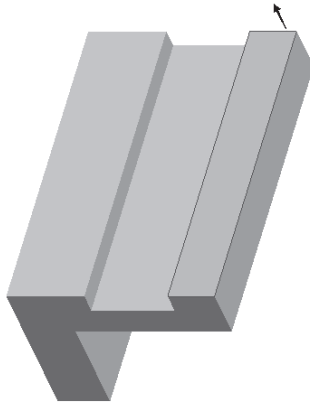

Figure 5-93 Arrow pointing from the sketching plane in the direction of feature creation
- c. Create the second feature, refer to Figures 5-93 through 5-96.
3. Select the top face of the base feature shown in Figure 5-93 as the sketching plane. A yellow arrow that points in the direction of viewing the sketch is displayed on the top face.
4. Choose the **Flip** button to flip the yellow arrow to point in the direction shown in Figure 5-93.